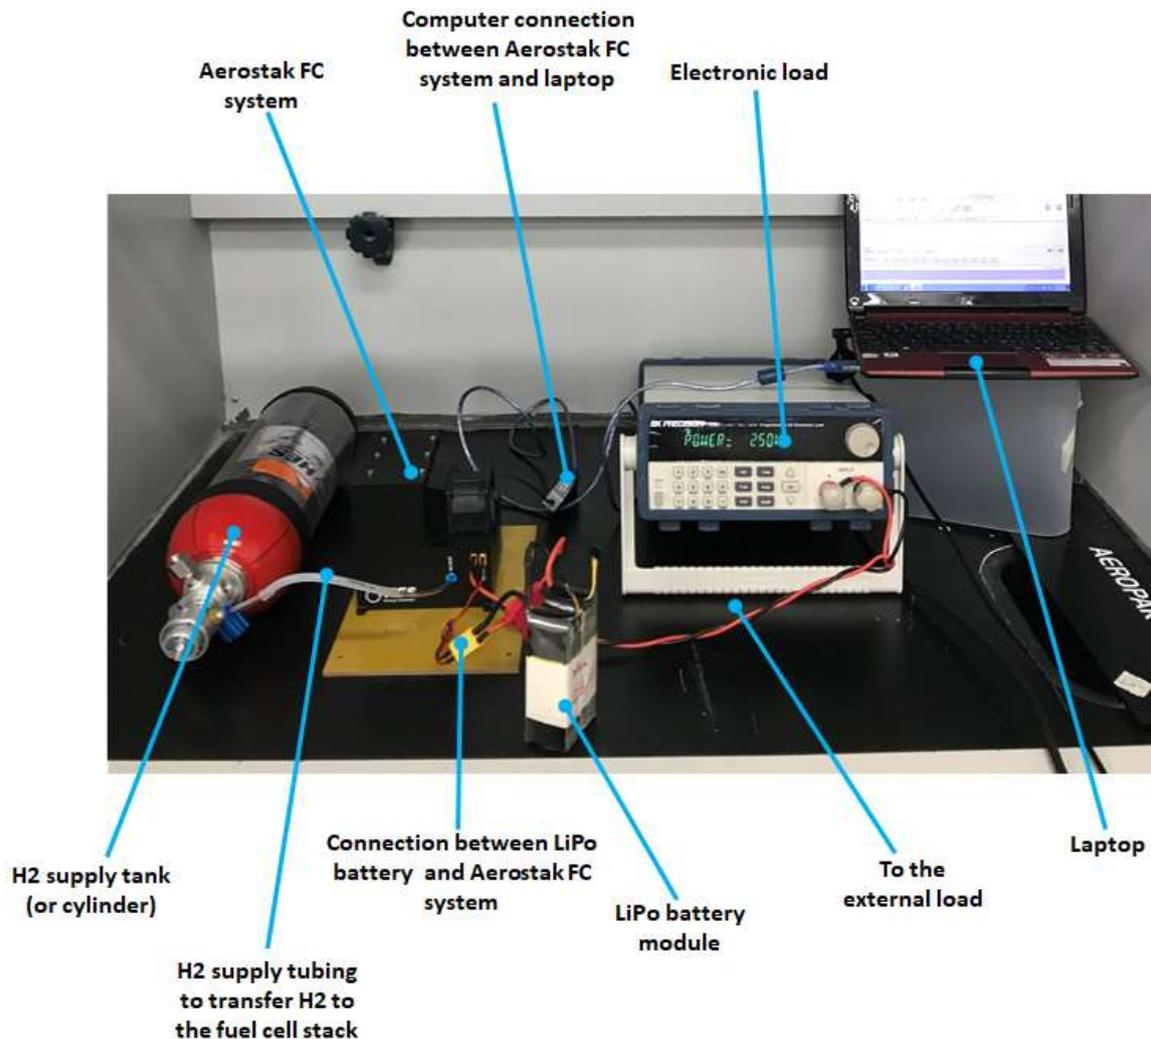

Figure 8. An example of a full system setup using an Aerostak FC system for benchtop testing.
5. A complete system set up using an Aerostak product is shown in Figure 8 (below) as an example setup for benchtop testing of A500-45 product. [Note: This image shows a standard testing layout as an example to the user. Composite H2 cylinder with a pressure regulator and its connection to the product, placement of the stack module in the upright position, connection of the fuel cell to the battery and the external load, LiPo battery and its connection to the fuel cell and external load, electrical and data communications, an electronic load and a computer are all shown on the benchtop for the purpose of illustration and how the user can setup its own A500-45 product for benchtop testing.]